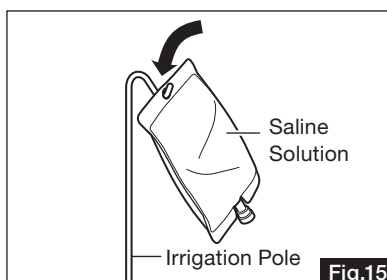

Fig.15
- 2) Hang a saline solution on the Irrigation Pole, remove the cover of the Irrigation Tube Needle and insert the Needle into the bottle outlet. (Fig. 15.)